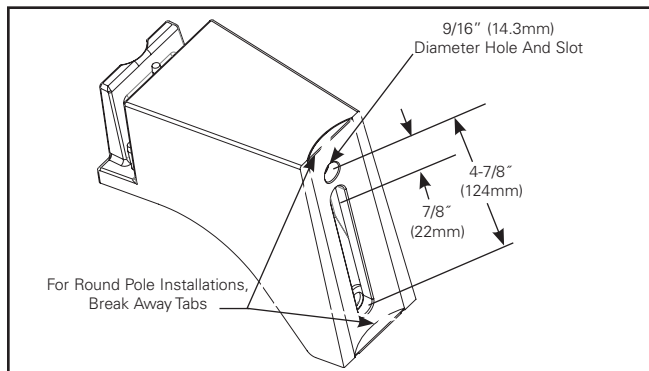

Figure 1.
1. Pole mounting arm is designed for a square or round pole. Round pole installation will require the mounting arm break-away tabs to be removed. Grab tabs with pliers and break-away as shown in (Figure 1). The minimum pole diameter shall be: 3". No isolators or gasketing permissible between mounting surfaces.